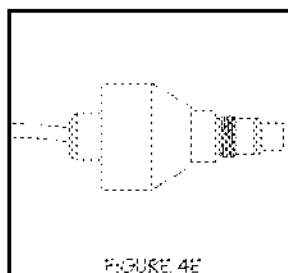

FIGURE 4E
4. Carefully reassemble the sensor assembly into the sensor boss by first inserting the sensor o-ring (Figure 4E) and then the sensor itself. Screw the sensor into the boss and tighten to achieve a water-tight seal. DO NOT OVER TIGHTEN. Attach the sensor cable to the Controller and return to service (Figure 4F).